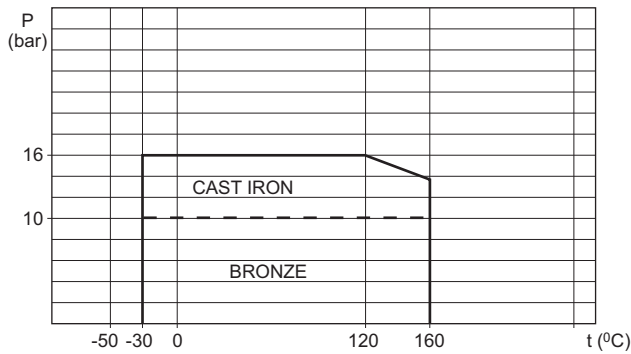
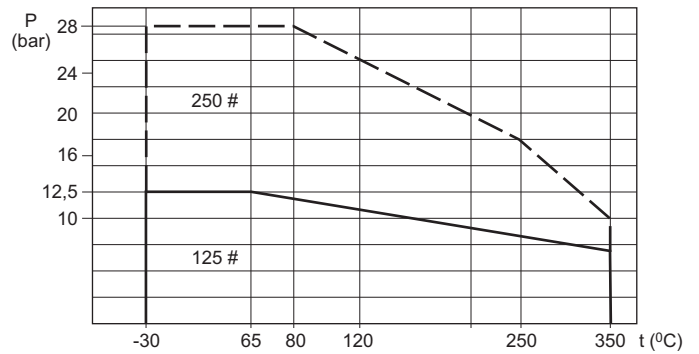

Fig. 01
Fig. 03
- (1) Check peripheral speed always (see item 7.4) and the maximum discharge pressure (see diagram fig. 01 e 02).
- (2) $P_r = P_s + P_d$, where: P_s = suction pressure, P_r = discharge pressure, P_d = differential pressure at $Q = 0$.
- (3) The indicated values are based on a Δt de 15°C . The temperature at the outlet of cooling chamber must not exceed 50°C .
- (4) See diagrams on fig. 03 and 04.
- (5) For pumps with CuSn10-C-GS impeller, observe values as follow: